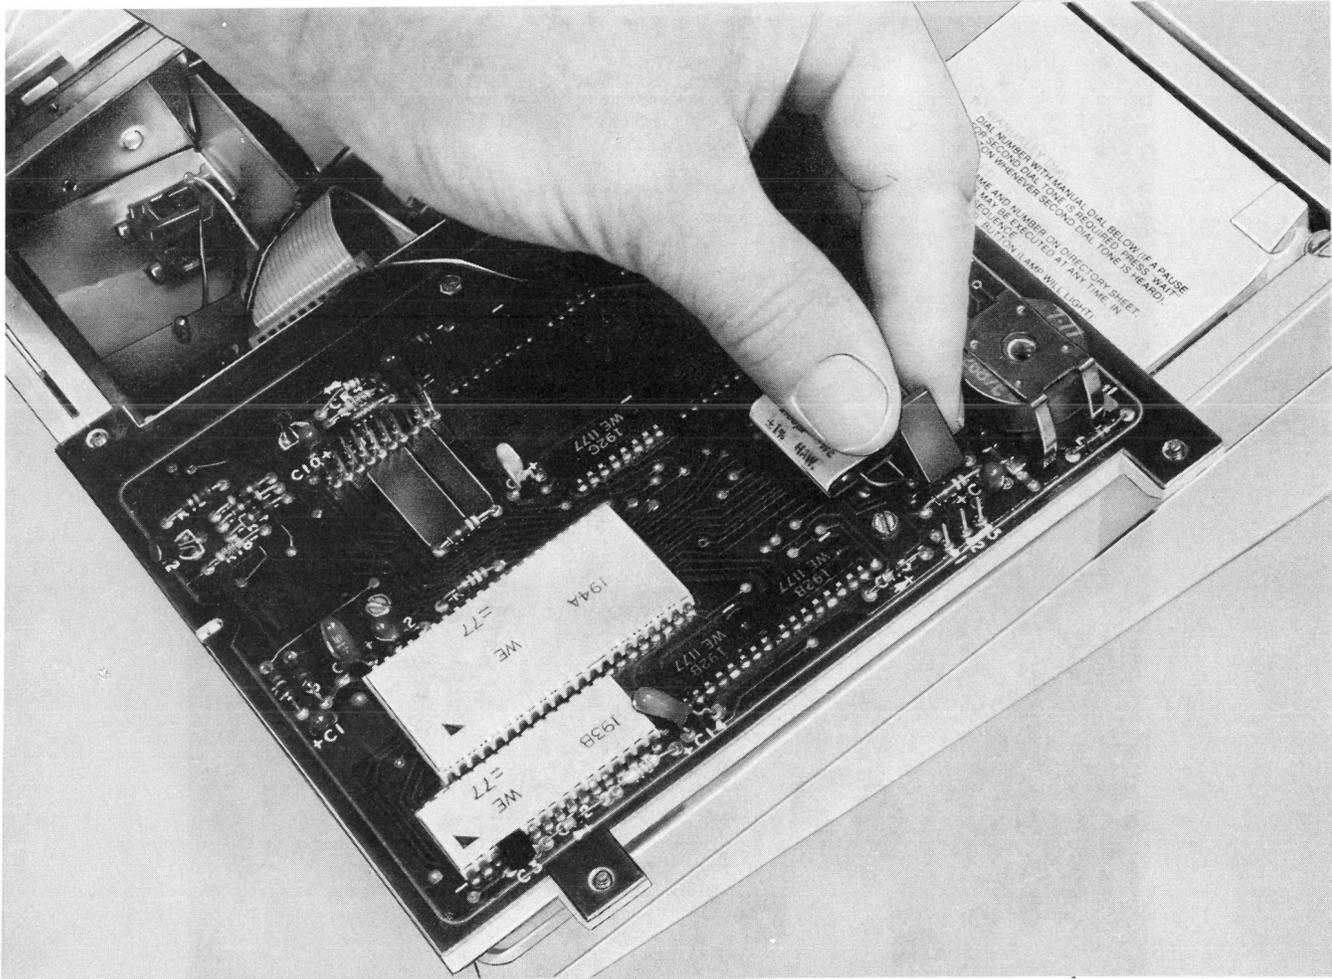

Fig. 6—870A1M (MD) or 870A2M Telephone Set, Connection of D-180818 Kit of Parts, Record Disable Feature Only
- (7) Connect switch lead connectors to post terminals on memory board per Table G and Fig. 6.
- (8) With feature switch in OFF position, verify that set operates in normal manner:
- (9) Set feature switch to ON position and verify feature provided.